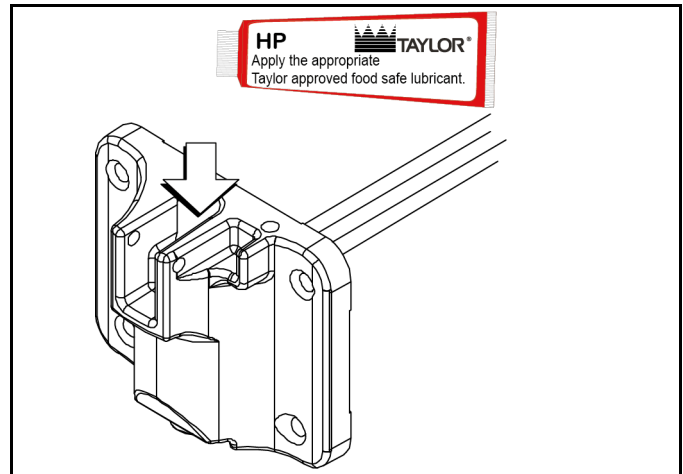

Figure 6-11
4. Lightly lubricate the inside of the top of the freezer door valve cavity. (See Figure 6-11.)